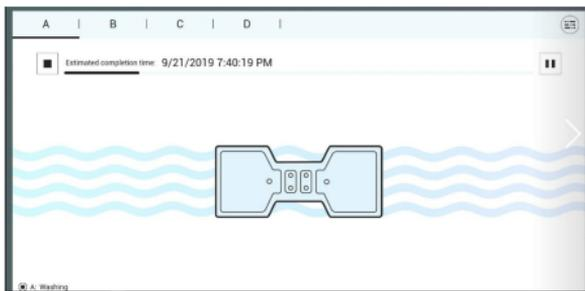

Figure 8-7: DNBSEQ-T7 Sequencing Complete Interface
- When the screen appears as shown in Figure 8-7, the sequencing and wash process for this PE100 run are completed.